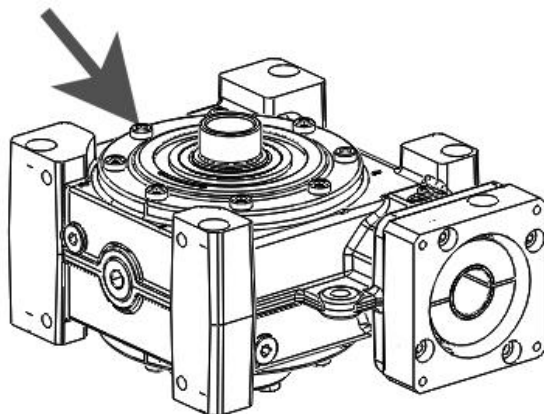

Fig. 11.1
- Ü Remove the inner hexagonal bolts on both side covers (see fig. 11.1).